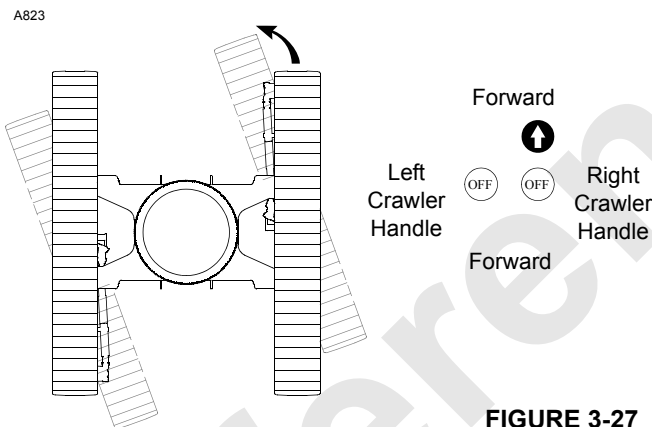

FIGURE 3-27
- Avoid sharp turns (Figure 3-27) if possible
- 10. To make a SHARP LEFT TURN (Figure 3-27), move right crawler handle to front from off and leave left crawler handle in off; crane will pivot about left crawler.